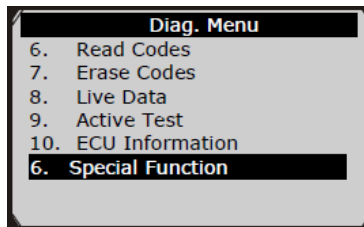

Figure 8.20
- 1) In the **Diagnostic Menu** (*Figure 8.20*), use the **UP/DOWN** button to select **Special Function** to do the ABS test. The scan tool displays as below.
- 1) In the **Diagnostic Menu** (*Figure 8.20*), use the **UP/DOWN** button to select **Active Test** to do the actuator test. The scan tool displays as below.